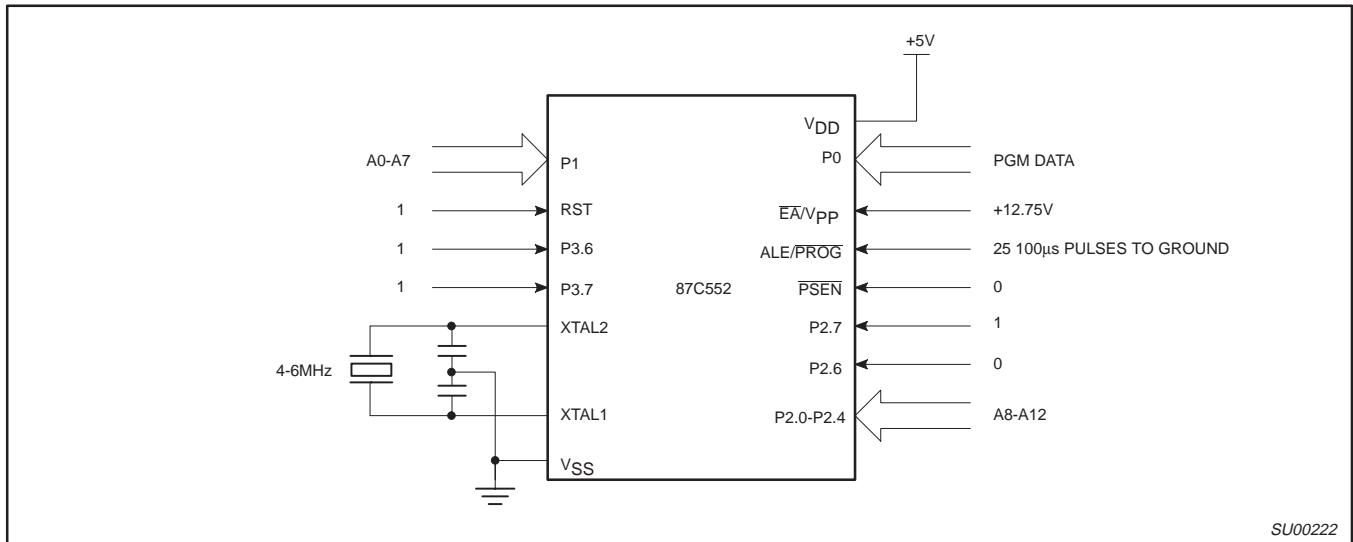
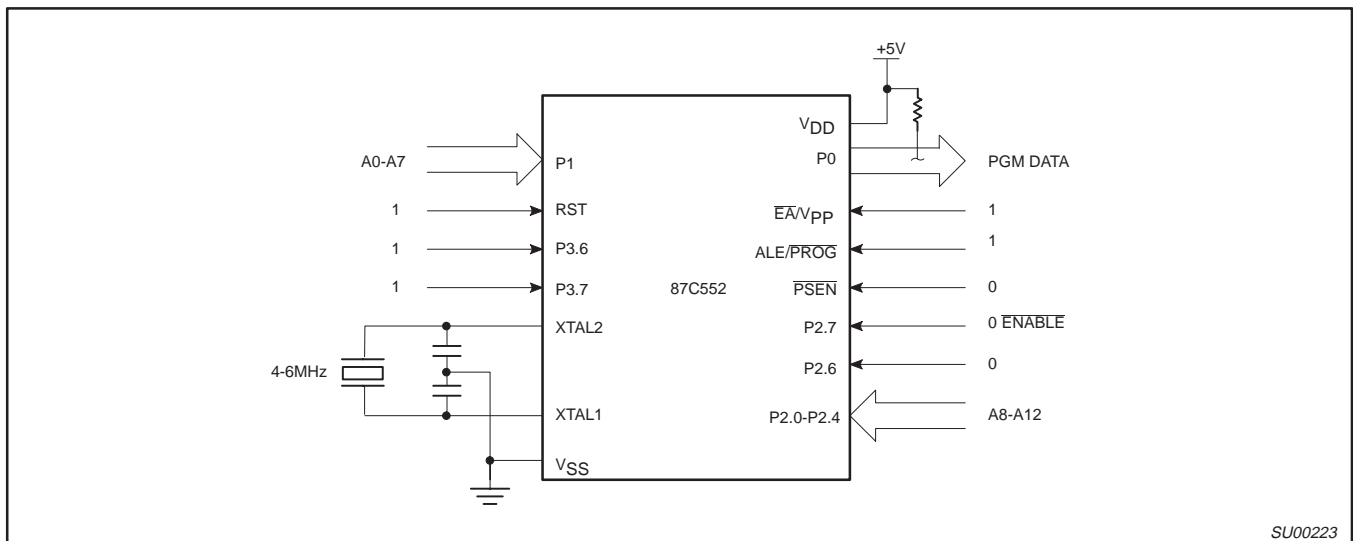

Figure 15. Programming Configuration
Figure 17. Program Verification
Table 3 shows the logic levels for reading the signature byte, and for programming the program memory, the encryption table, and the lock bits. The circuit configuration and waveforms for quick-pulse programming are shown in Figures 15 and 16. Figure 17 shows the circuit configuration for normal program memory verification.
The setup for microcontroller quick-pulse programming is shown in Figure 15. Note that the 87C552 is running with a 4 to 6MHz oscillator. The reason the oscillator needs to be running is that the device is executing internal address and program data transfers.
The address of the EPROM location to be programmed is applied to ports 1 and 2, as shown in Figure 15. The code byte to be
program verification. The address of the program memory locations to be read is applied to ports 1 and 2 as shown in Figure 17. The other pins are held at the "Verify Code Data" levels indicated in Table 3. The contents of the address location will be emitted on port 0. External pull-ups are required on port 0 for this operation.
* FOR PROGRAMMING VERIFICATION SEE FIGURE 17.